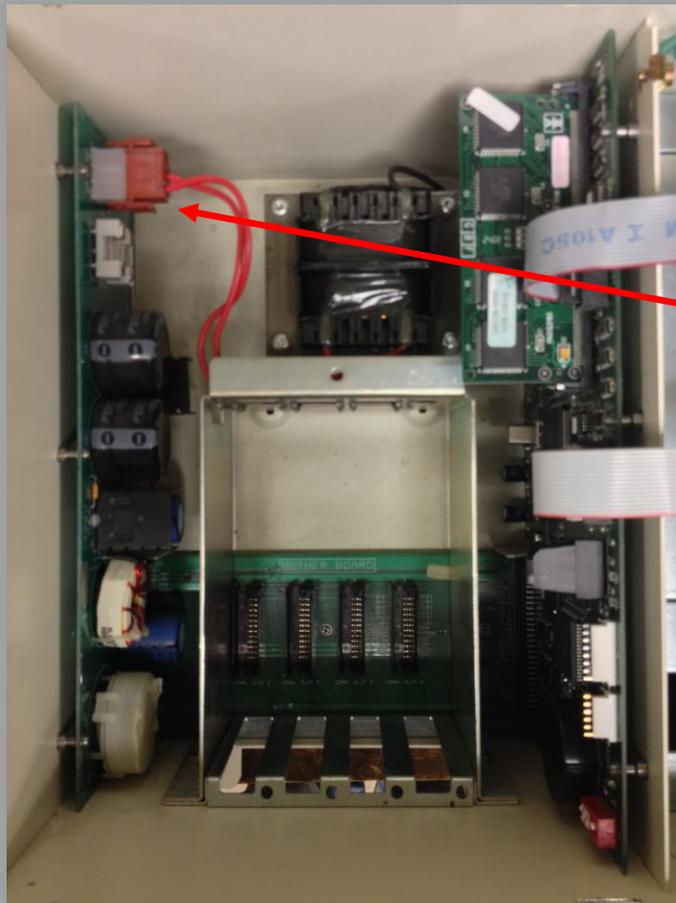

Figure 2 - Inside the TLS-350 Printer compartment
- Remove power from the console by un-plugging the two position connector (see Figure 2 & 3) in the printer compartment.